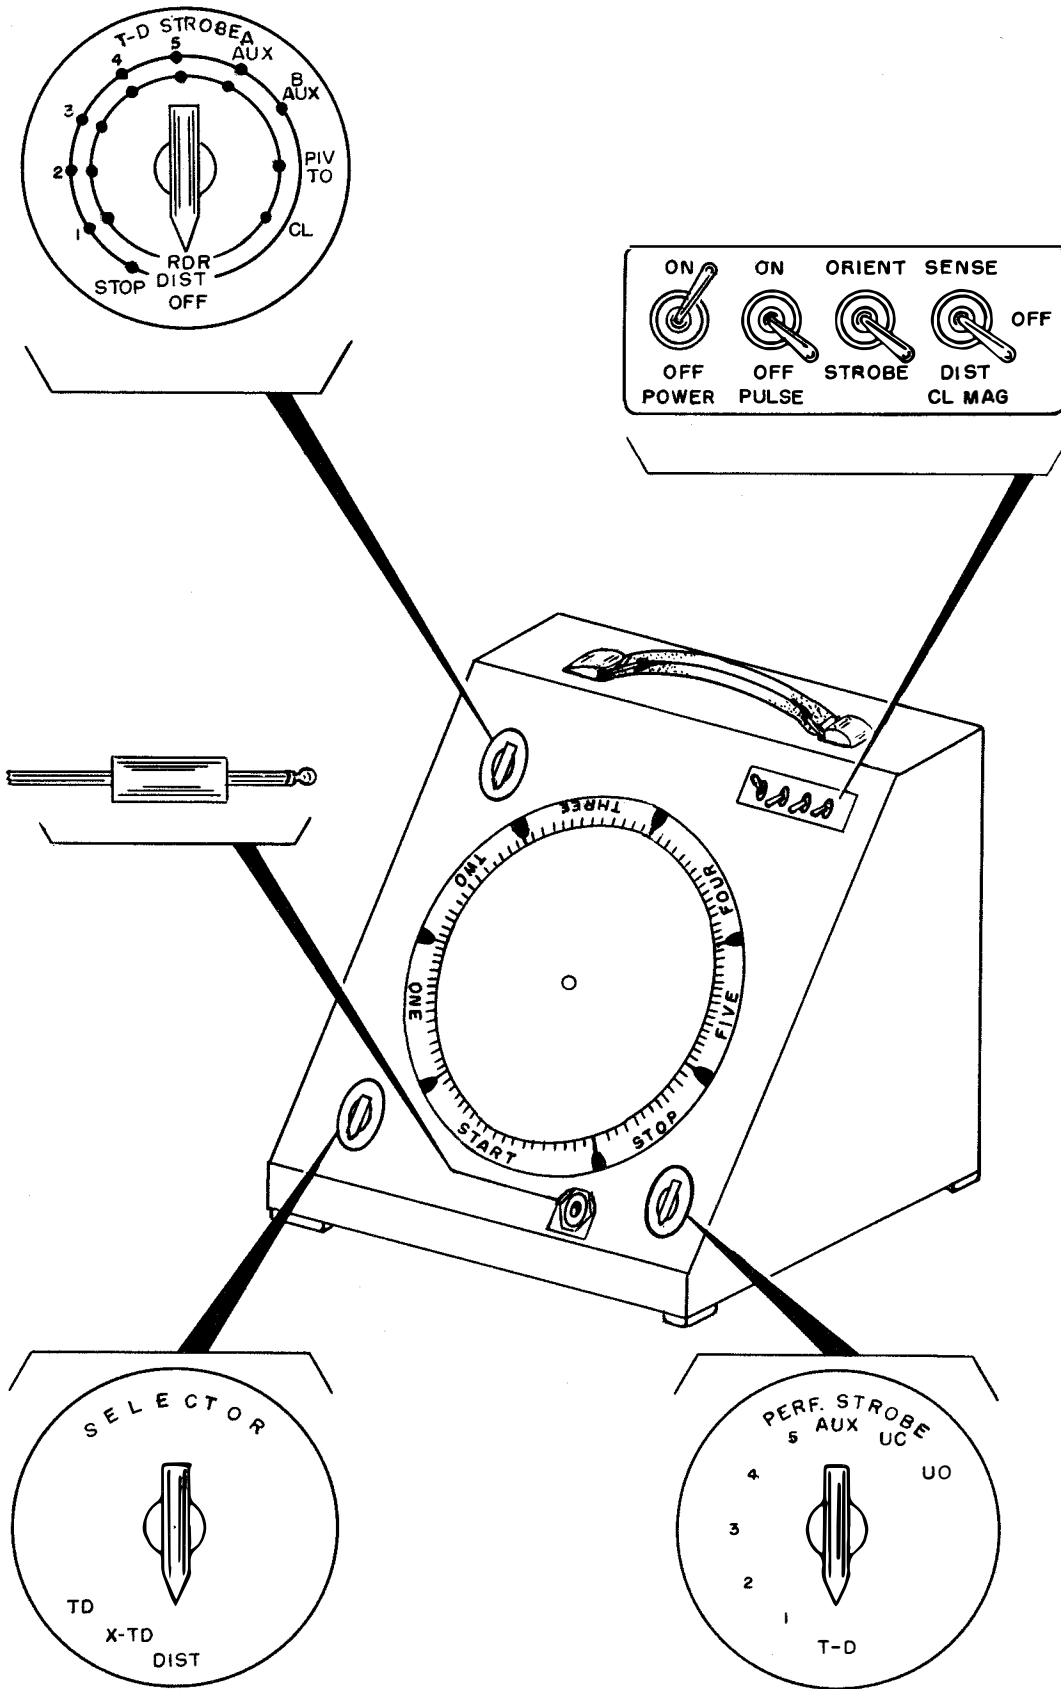

FIGURE 3-1 CONTROL SWITCHES
g. **CONTROL SWITCHES AND CABLE ASSEMBLY.** Figures 6-3, 6-11 --- The various control switches are located near each corner of the front panel (Figure 3-1). This control circuitry permits the operator to select the desired contacts of the unit to be "strobed". The main cable links the control switches with the unit to be tested by means of the 32 pin connectors. Note that the branch with the two connectors (male and female) will connect combined units using the pivoted head and fixed head. The branch with the single connector is arranged for connection to the code reading contacts and is equipped with an adapter to accommodate the 20 pin connector used on certain perforators. The input signal jack located on the front panel provides for the strobing of individual contacts such as the keyboard signal generator.
a. **GENERAL.** The circuit described in the following text is shown in the overall schematic diagram (Figure 5-11) and the actual wiring diagram (Figure 5-12). Refer to Figure 3-1 for the location and nomenclature of each switch.
Position PIV of Figure 3-1 is not a part of T-D STROBE switch, however RDR is. Therefore, place SELECTOR switch in its TD position and the T-D STROBE switch on RDR.
(2) In the same manner, the section of the switch marked FIXED HEAD in the schematic wiring diagram of Figure 5-11 provides for the connection of the test set to the contacts associated with the fixed head sensing mechanism. With respect to the switch plate markings of Figure 3-1, place SELECTOR switch in X-TD position, T-D STROBE in RDR position, and CL MAG in DIST position.
(3) The section of the switch marked DIST CLUTCH (Figure 3-1) conditions the distributor clutch circuit so that the clutch is pulsed by the distributor clutch contacts when the #1 through #5 contacts are strobed. When the auxiliary contacts, clutch contacts, and tape out contacts are to be strobed, the switch conditions the distributor clutch circuit so that power is applied continuously to the distributor clutch magnet.
(a) With test set controls (see fig. 3-1) positioned as indicated below, the stroboscope should display a continuous trace.
The dots on outer circle of the switch plate refer to contacts associated with the distributor shaft. See figure 3-1.